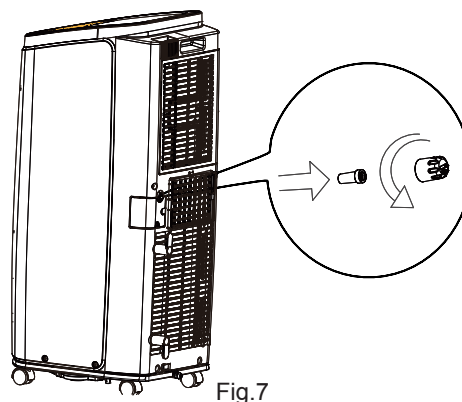

Fig.7
- (1) Remove the continuous drain cap 1 by turning it counter clockwise then remove the rubber stopper 2 from the spout. (As show in Fig.7)